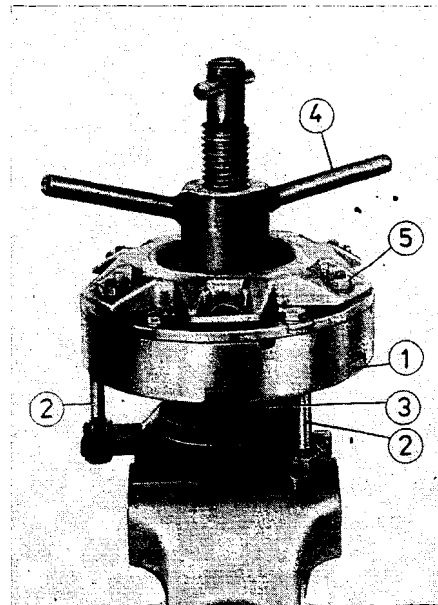
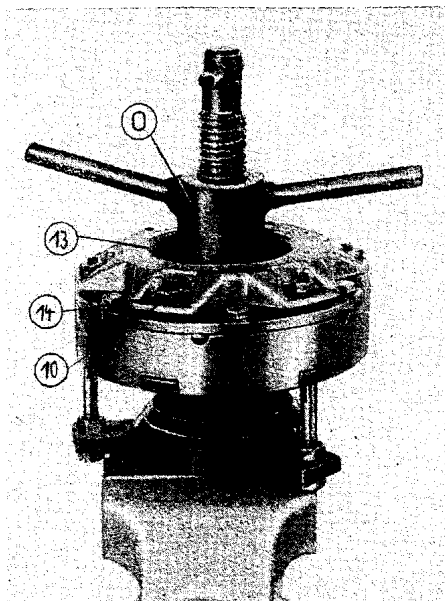

Fig. 18. Dismantling the clutch
Fig. 20. Clutch - screwing the pressure flange in place
The assembly device 05-MW 150-2 (Fig. 18) enables the dismantling and assembling of the clutch. To facilitate work, it is clamped in a vice. Fig. 20 shows the mounting position.
For dismantling or checking the clutch, it must be so positioned that the pressure plate (1) is not put on the propping screws (2) (Fig. 18).
- Put the compression springs (12) on the clutch body (9);
- Mount the pressure flange (13) and tension it with the upper part of the clutch assembling device. Adding the lock plates (10), fasten the pressure flange by means of the nuts (14) and lock them (Fig. 20).
The lock nut (4) of the assembling device (Fig. 18) is tightened by turning clockwise, it must be possible to turn the internal driver (3) with drive gear. The same test can be performed with the upper part of the O5-MV 150-2 assembling device with the clutch mounted in the engine.